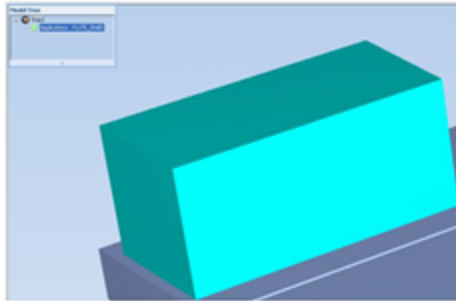

Figure 5-33 Model displayed with bounding box
- ☐ With a *Bounding Box* (see Figure 5-33 on page 5-34)